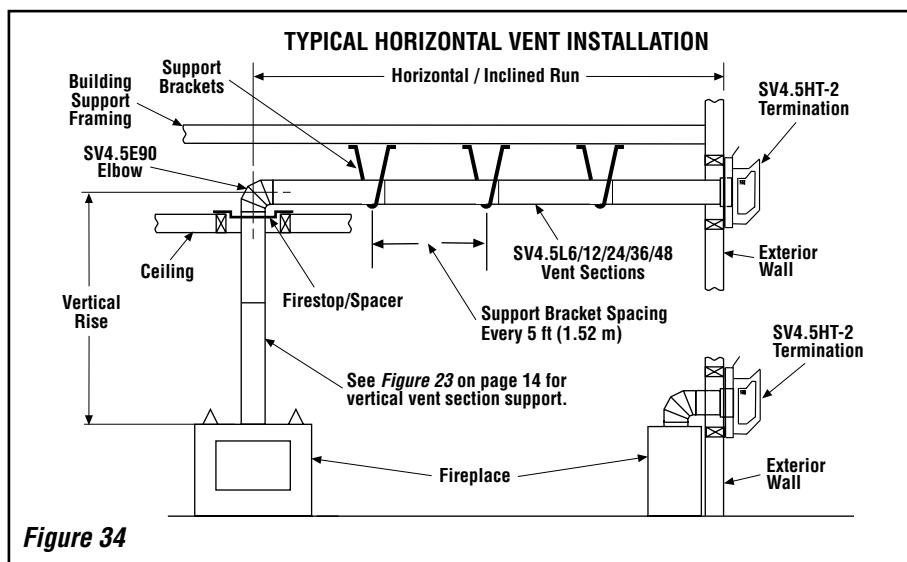

Figure 34
Figures 34, and Figures 38 to 43 on pages 20 to 22 and their associated Horizontal Vent Table illustrate the various horizontal venting configurations that are possible for use with these appliances. **Secure Vent** pipe applications are shown in these figures; **Secure Flex** pipe may also be used. A Horizontal Vent Table summarizes each system's minimum and maximum vertical and horizontal length values that can be used to design and install the vent components in a variety of applications.
I. Continue installation of horizontal/inclined sections - Continue with the installation of the straight vent sections in horizontal/inclined run as described in **Step E**. Install support straps every 5 ft. (1.52 m) along horizontal/inclined vent runs using conventional plumber's tape. See **Figure 34**, it is very important that the horizontal/inclined run be maintained in a straight (no dips) and recommended to be in a slightly elevated plane, in a direction away from the fireplace of 1/4" rise per foot (20 mm per meter) which is ideal, though rise per foot run ratios that are smaller are acceptable all the way down to at or near level. Use a carpenter's level to measure from a constant surface and adjust the support straps as necessary.